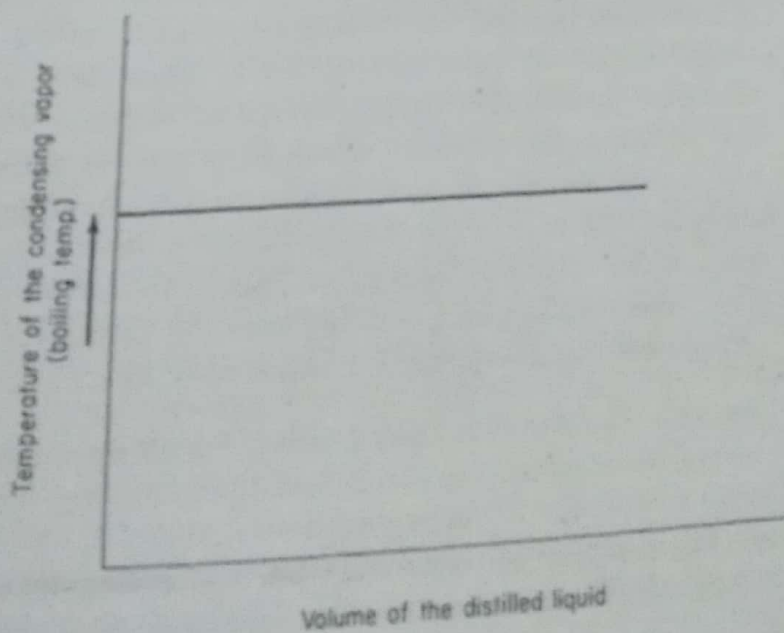

FIGURE 21.4
2. The composition does not change (see Fig. 21.4).